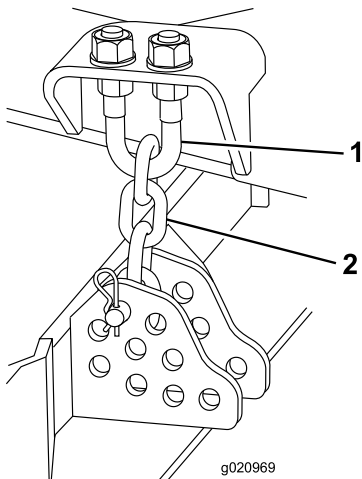

Figure 122
1. Loosen the jam nuts on the top or bottom of the height-of-cut-chain U-bolt (Figure 122).